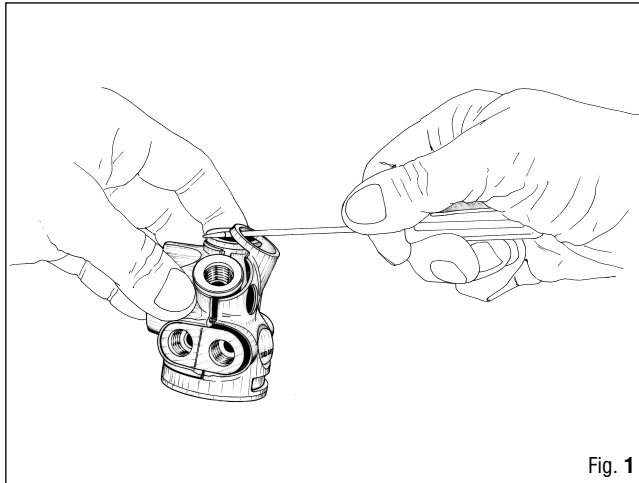

Fig. 1
1. REMOVE THE RING (SMALLER DIAMETER) OF THE RUBBER BOTTOM CASING (177) FROM ITS SEAT IN THE 1ST STAGE BODY (FIG. 1).
2. PULL THE RUBBER BOTTOM CASING (177) AWAY FROM THE THREADED PINS OF THE PLASTIC TOP CASING (178).
4. CORRECTLY POSITION THE RING (SMALLER DIAMETER) OF THE RUBBER BOTTOM CASING (177) ON THE CONNECTORS OF THE PLASTIC TOP CASING (178) (Fig. 1).